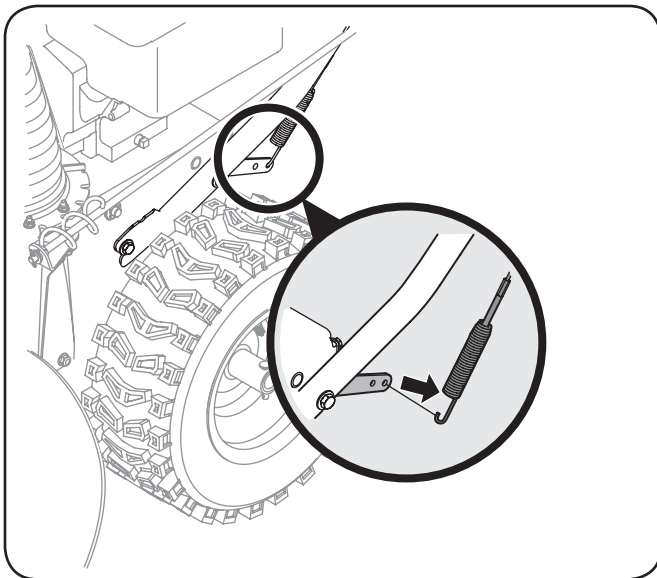

Figure 3-9
1. From beneath the handle, pull downward on the appropriate cable and unhook the spring found on the end of the cable from its respective actuator bracket. Refer to Figures 3-9 and 3-10.